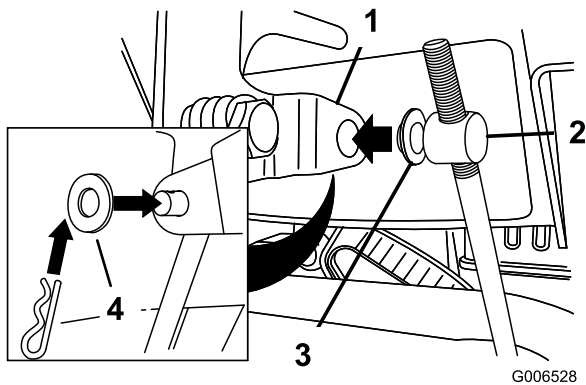

Figure 11
3. Remove the hairpin cotter and the outer washer from the trunnion on the upper end of the speed control rod (Figure 11).
Note: To make installation easier, leave the flat washer on the trunnion (Figure 11).
6. Lift up on the speed control rod and insert the trunnion into the hole in the speed selector lever (Figure 11).